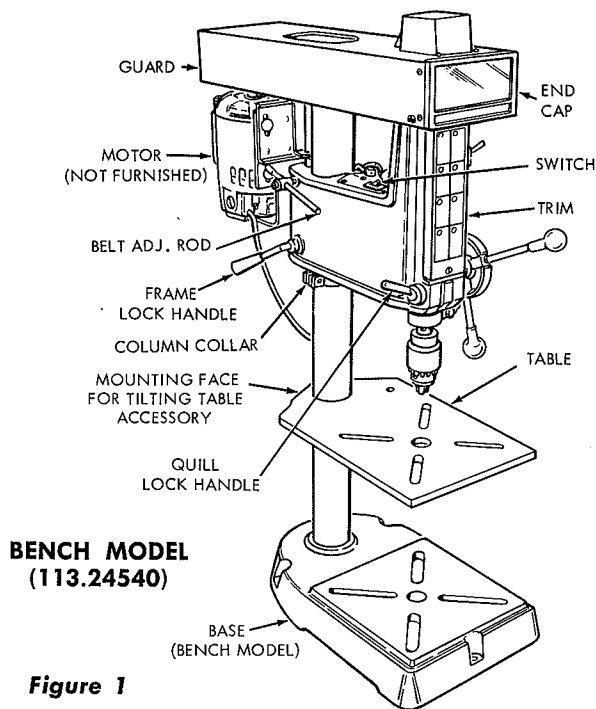

Figure 1
This Craftsman Drill Press is available as a bench model and as a floor model, as shown in figures 1 and 2. The bench model (No. 113.24540) is the same as the floor model (No. 113.24560) except for the longer column and larger base. Both models are shipped in the same style carton; however, the floor model has the long tubular column extending out of the carton.
1. Hold the frame securely, loosen the frame lock handle (figure 1) and slide the frame upward on column to a convenient working position. Tighten the frame lock handle.
- 7. Column Collar.** This is a two-piece collar for clamping to the column. It should be located under the frame to keep it from sliding down accidentally when the frame lock handle is loosened. (Refer to Figure 1.)